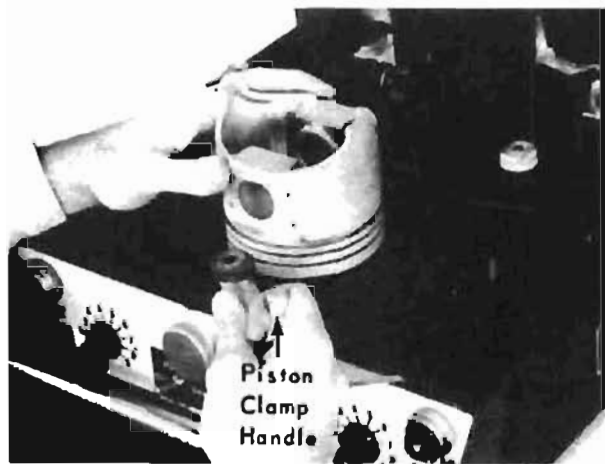

FIGURE 5
3. Pull the Piston Clamp Handle forward and slightly to the right. Place the piston on the non-skid surface of the Rod Heater deck so the pin hole is aligned with the Plunger (see Figure 5). Then release the Piston Clamp Handle.